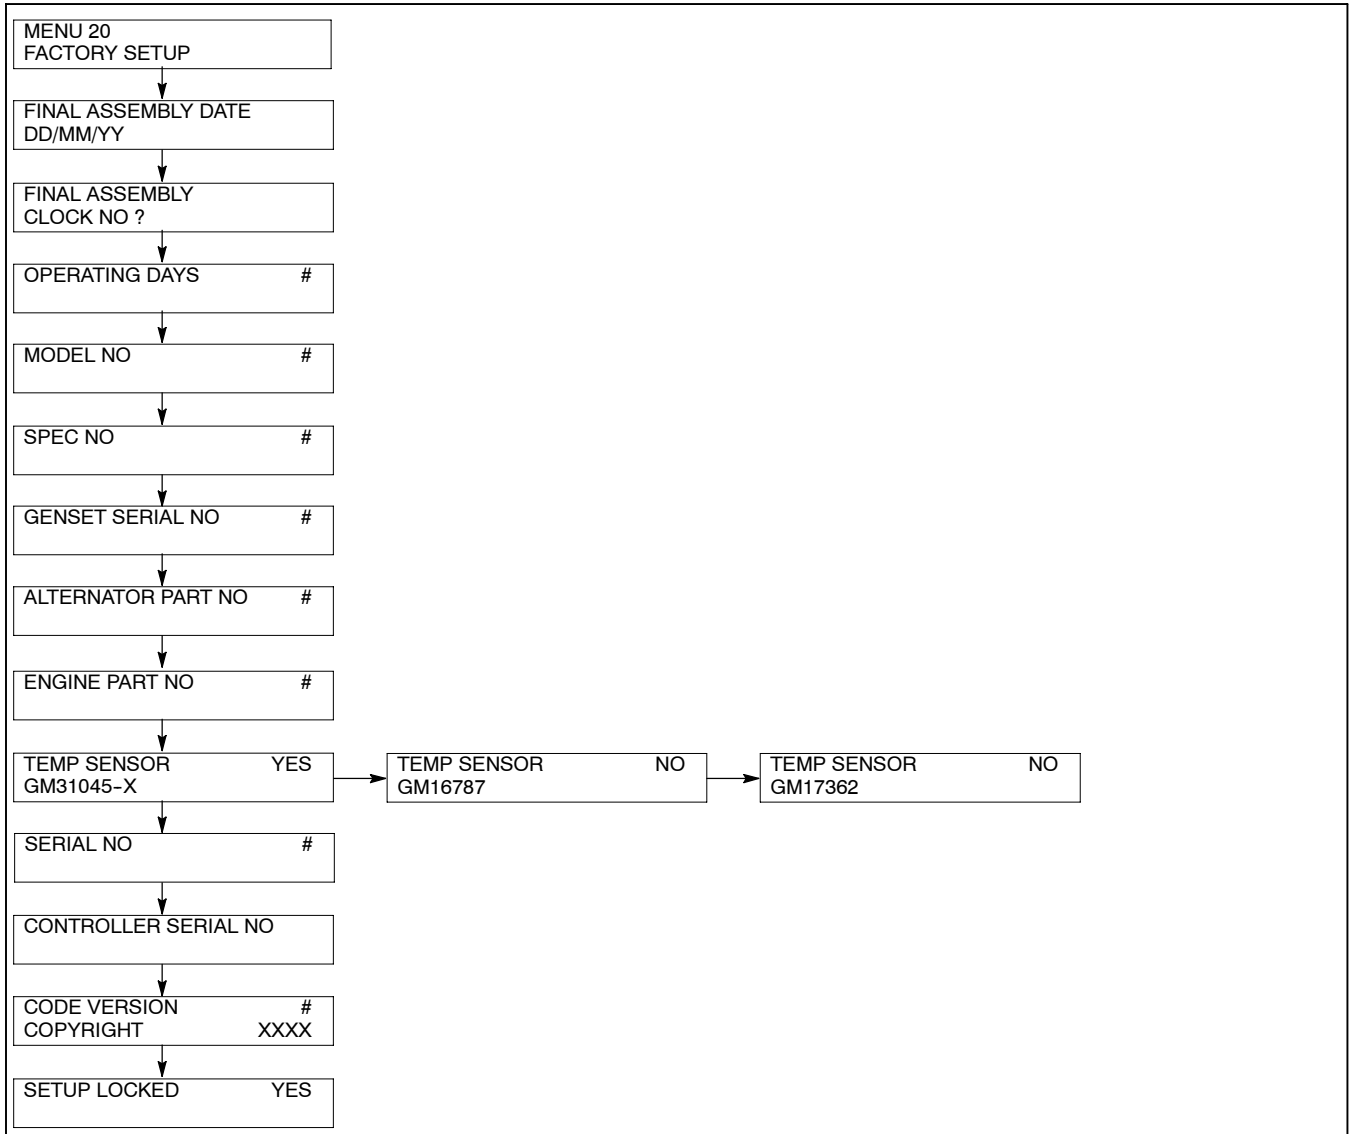

Figure 5-11 Menu 20, Factory Setup
- a. Go to Menu 20, Factory Setup. The menu can remain locked when changing the sensor selection. See Figure 5-11.